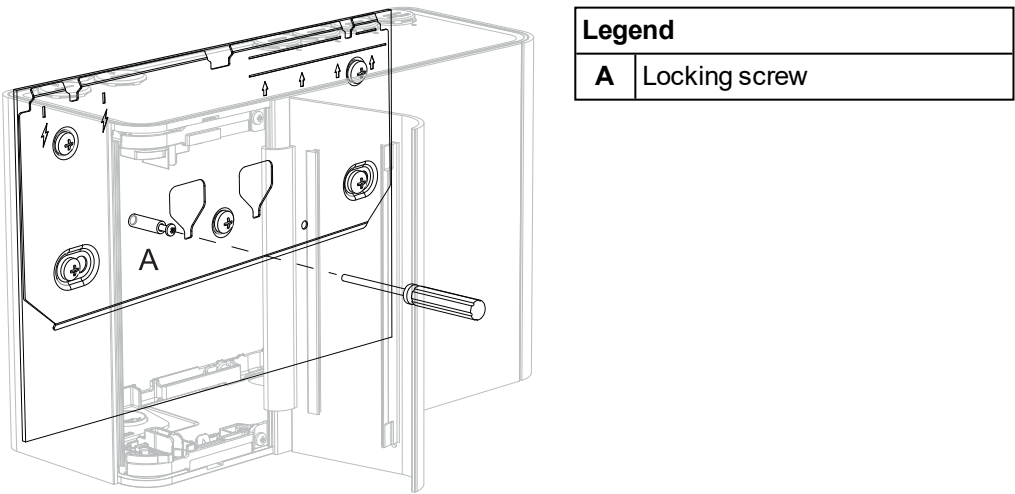

Figure 4-22: Locking Screw
7. Open the door on the front of the detector (Figure 4-22). Refer to Section 7.2 on page 71 for further information on how to open the door.
8. Insert and tighten the locking screw (A). This secures the detector to the mounting bracket.